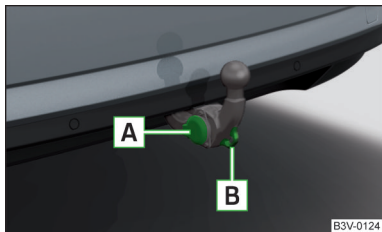

Fig. 309
- › Open the socket cap and insert the plug of the trailer (accessories) into the 13-pin socket **A** » Fig. 309. (If the trailer / accessories have a 7-pin connector, use a corresponding adapter from the ŠKODA Original Accessories).